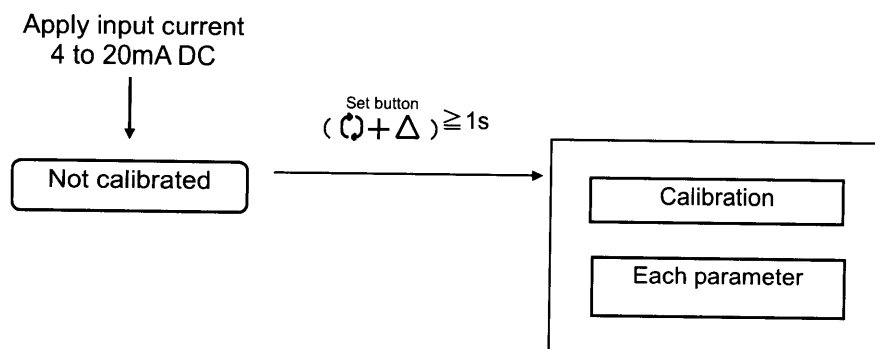

Fig. 15
- \*6: Auto and manual mode can be switched by rotating the pilot valve unit auto/manual switch screw to the manual (M) side as shown in Fig. 15. A small stopper screw in the top is to prevent loosening and must not be tampered with or loosened. Also, a sensitivity holding screw is set prior to factory shipment and must not be accidentally rotated.